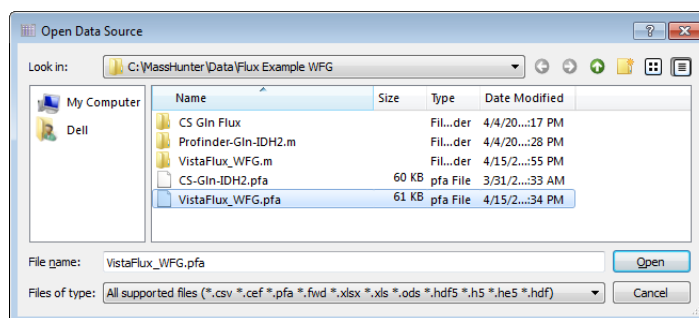

Figure 107 Open Data Source dialog box
- Navigate to the folder and select file VistaFlux_WFG.pfa (Figure 107).